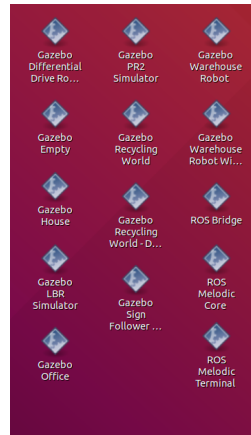
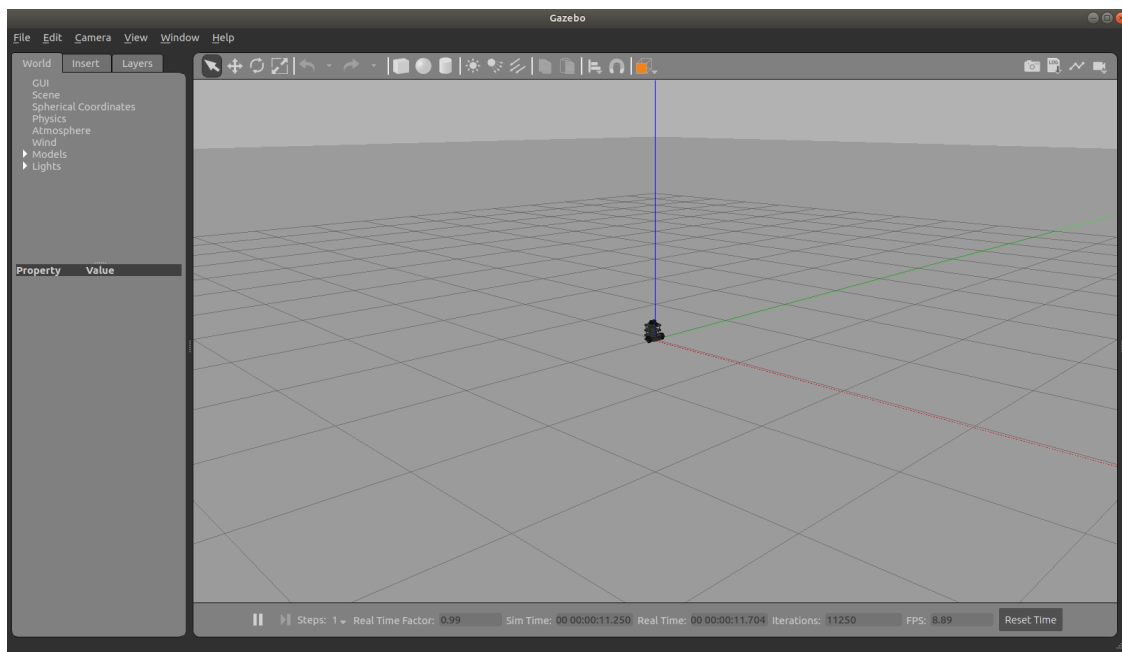

Figure 3: Various world start-up scripts
Figure 4: Virtual world initiated from the “Gazebo Empty” script
**Example to test simulated turtlebot** Now that you have properly installed and loaded the virtual machine you can run an example program to test that the connection between the robot and Simulink has been established. In the virtual machine desktop select the Gazebo Empty icon as shown in Figure 3, which will initialize a virtual environment as shown in Figure 4.